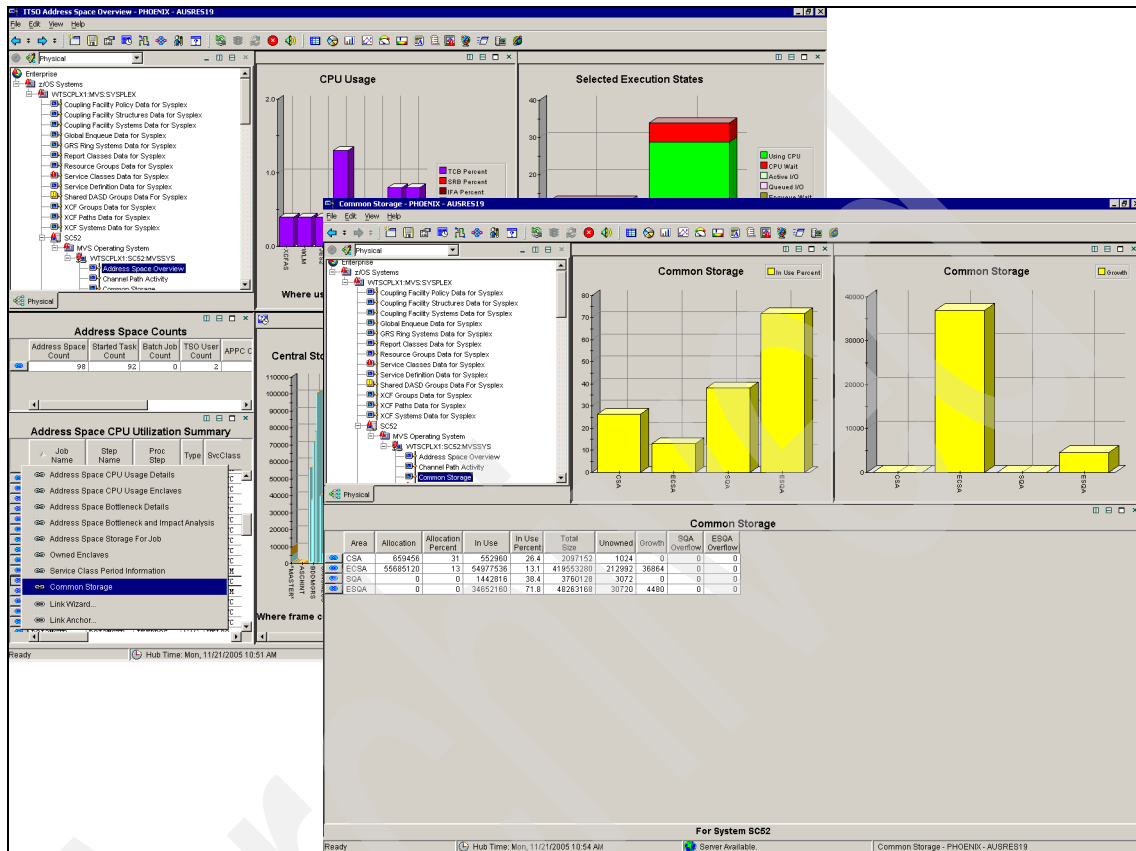

Figure 6-11 Link from Address Space Overview to Common Storage workspace
- Execute the link to verify the results. Figure 6-11 shows the common storage workspace.